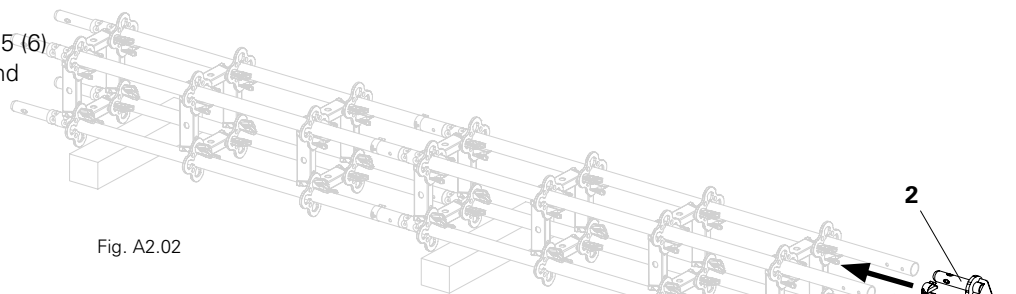

Fig. A2.02
3. Push the connection plate (2) onto the pins of the standards and tightly connect it using the locking pins (5). (Fig. A2.02)